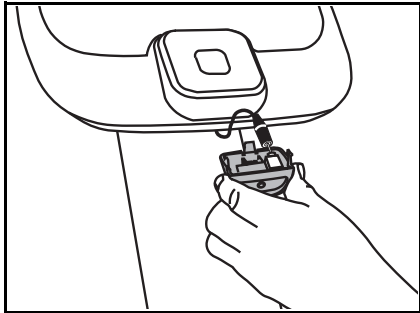

Figure 8: Attach audio cable to headphone jack
9. Feed the audio cable through the base of the display console and attach it to the headphone jack. See Figure 8.